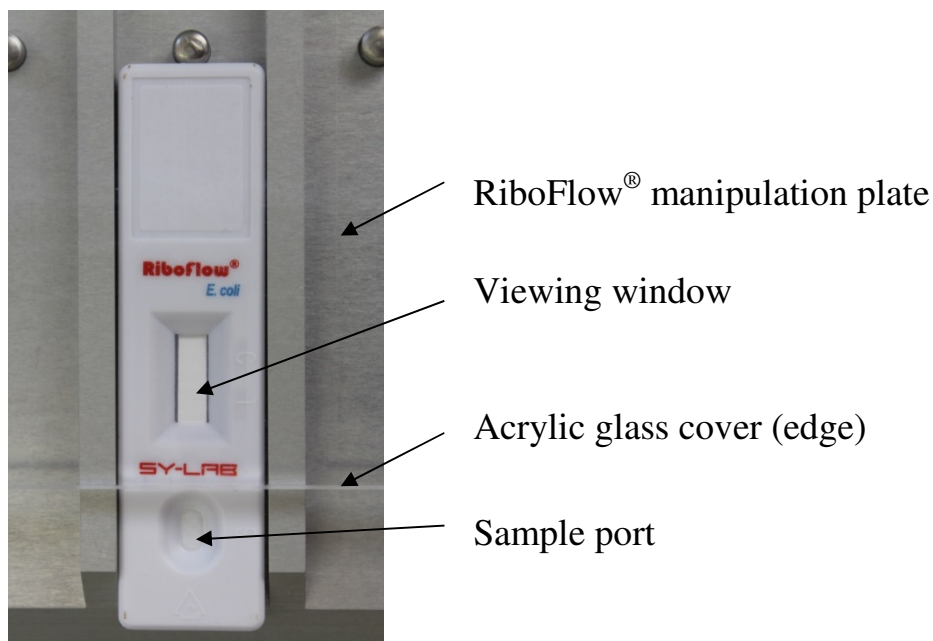

Fig. 1: RiboFlow[®] Lateral Flow Assay device (example: *E. coli*)
3. Pre-warm Solution C and the required RiboFlow[®] Lateral Flow Assay devices in the IL-10 Mini-Incubator set to +48°C for at least 10 minutes before the assay is carried out (one set of 4 devices each per sample = one device each for *E. coli*, *S. aureus*, *P. aeruginosa* and *C. albicans*). To this end, slide the devices into the pre-warmed RiboFlow[®] manipulation plate lying in the incubator, so that the sample ports are not covered by the acrylic glass cover of the plate (Figure 1). Bring the other kit components / solutions to ambient temperature (+18 to +30°C) before use.
3. Pre-warm Solution C and the required RiboFlow[®] Lateral Flow Assay devices in the IL-10 Mini-Incubator set to +48°C for at least 10 minutes before the assay is carried out. To this end, slide the devices into the pre-warmed RiboFlow[®] manipulation plate lying in the incubator, so that sample ports are not covered by the acrylic glass cover of the plate (Figure 1).